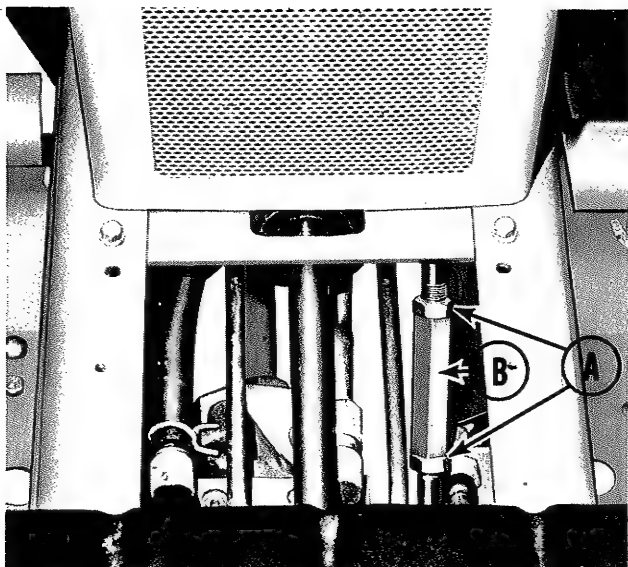

Figure 14. Hydrostatic transmission neutral adjustment as seen from above tractor seat.
3. See figure 14. Using two 3/4 inch wrenches, loosen the locking nuts (A) on either side of turnbuckle (B). To loosen the lock nuts hold the turnbuckle stationary with one wrench and use the other to turn the locking nuts counter-clockwise to loosen them.